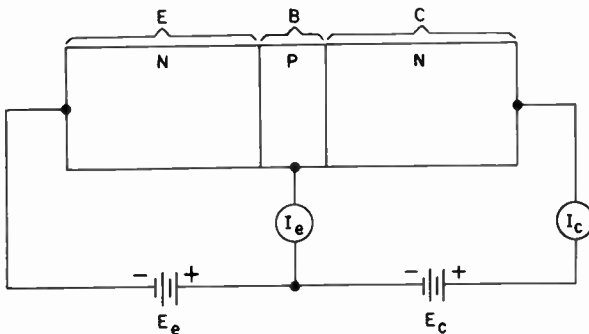

FIG. 10-5. BIAS VOLTAGES IN AN N-P-N TRANSISTOR.
**SETTING UP A TRANSISTOR AMPLIFIER.** If we examine the battery polarities of Fig. 10-5, we note that section EB is biased in the forward direction. A current will therefore flow from the negative side of the battery, through the E section to the B section, through the meter  $I_e$  and back to the positive side of the battery. The B-C diode section, however, has REVERSE BIAS applied to it and therefore, exhibits a high resistance. This causes the current  $I_c$  to be very small.